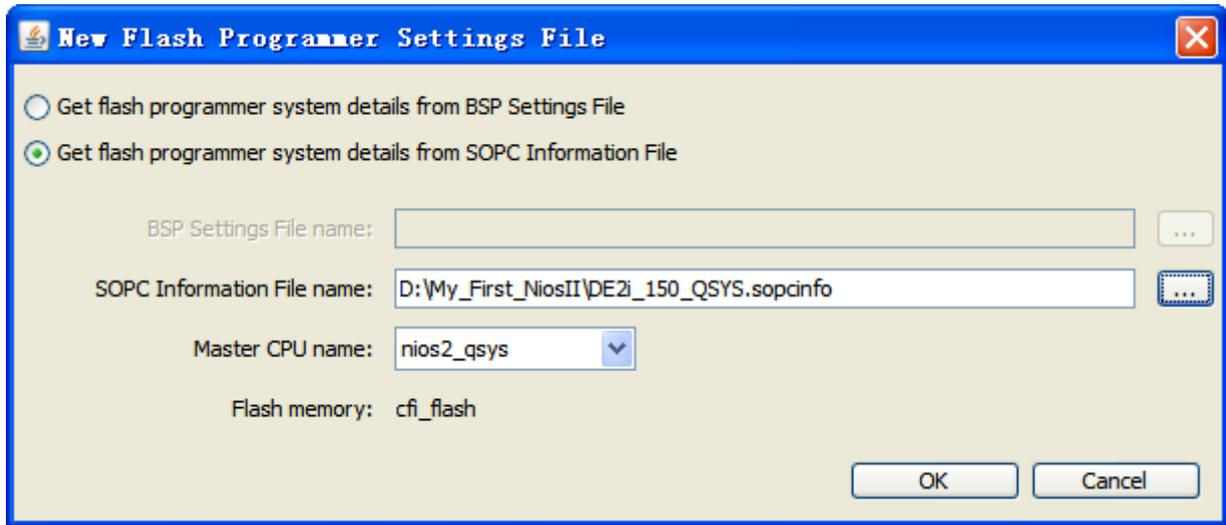

Figure 3-26 Select SOPC Information Design File[2]
4. Select “DE2I_150_QSYS.sopcinfo” file, and click Select to back as shown in Figure 3-26.